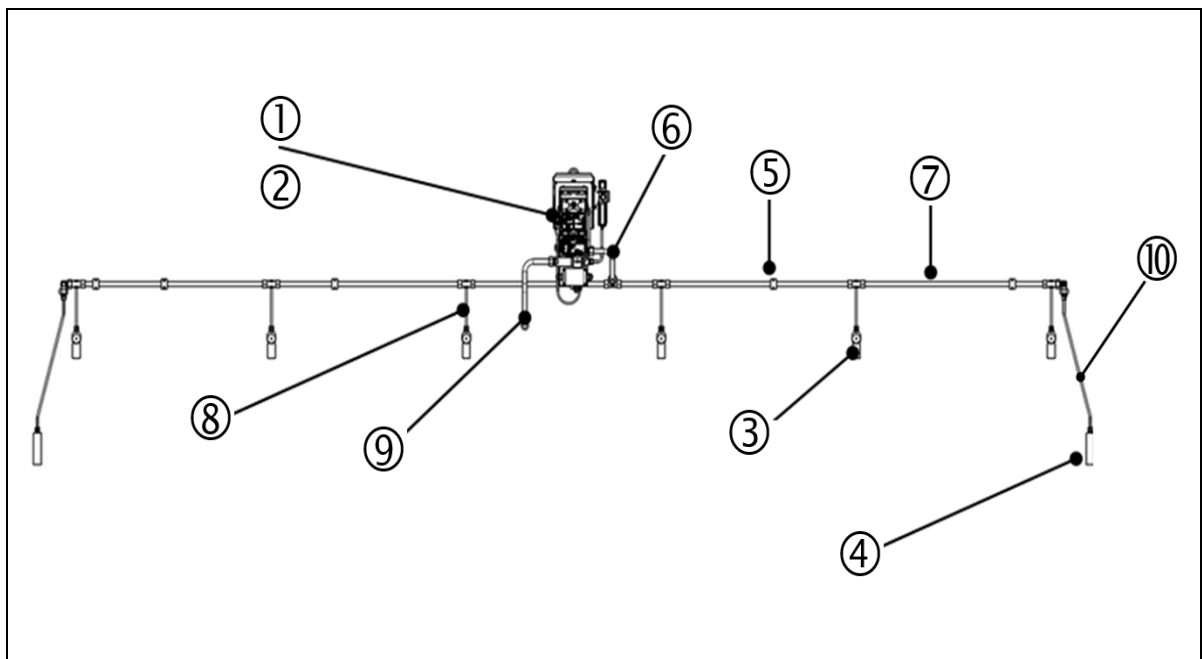
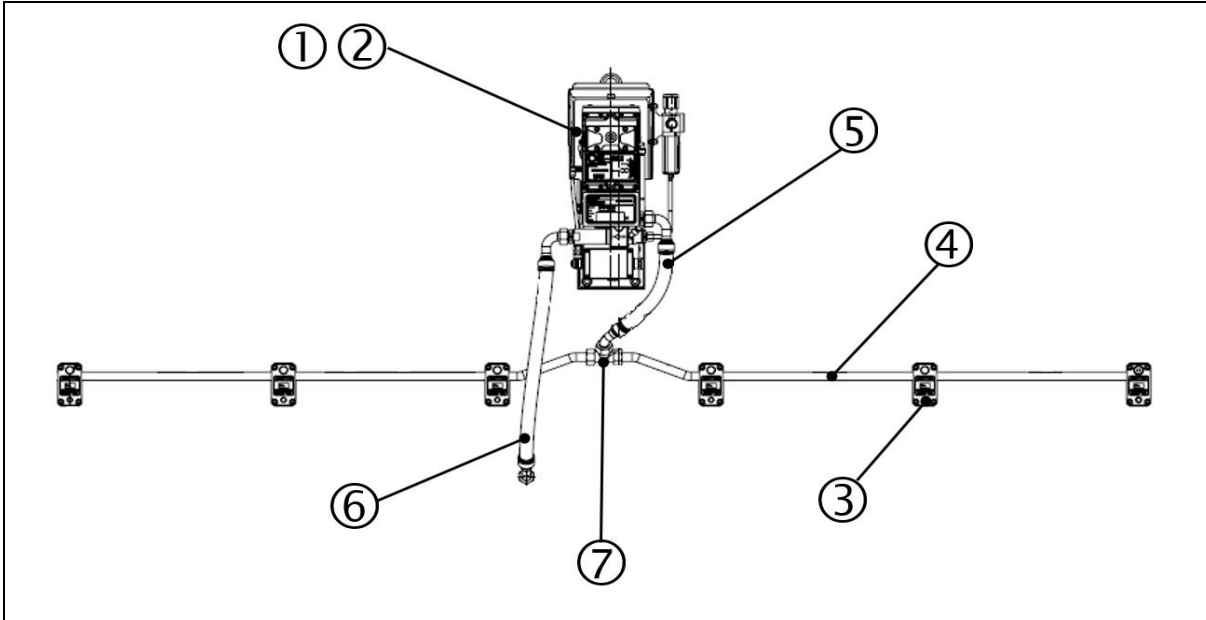

Fig.: 10 : Component overview, standard drainage, VISATRON® VN2020
Fig.: 11 : Component overview, drainage concept with siphon block, VISATRON® VN2020
The drainage concept with siphon block is the alternative to the standard drainage concept and is always used when the standard drainage concept with the pipe siphon (Fig. 10, 4) cannot be used for reasons associated with the application.
The oil mist detector uses the *Venturi principle* to take in the oil mist atmosphere from the crankcase. The negative pressure generated by the Venturi air jet pump (6) at the device is used to draw in the oil mist-containing crankcase atmosphere from the crankcase via the engine wall connections (Fig. 10, 3). It then passes through the header pipes (Fig. 10, 7) and the intake line (Fig. 10, 6) into the connection box and from there into the optical measuring track in the measuring head, where the oil mist concentration is continuously measured and analysed. From there, the crankcase atmosphere returns to the crankcase via the recirculation line (Fig. 10, 9).
The siphon block is the alternative in the installation kit to the engine wall connection (EWC). If necessary, this is used instead of the engine wall connection (EWC) (Fig. 11, 3) if the standard drainage concept using the pipe siphon (Fig. 10, 4) cannot be used for reasons associated with the application.